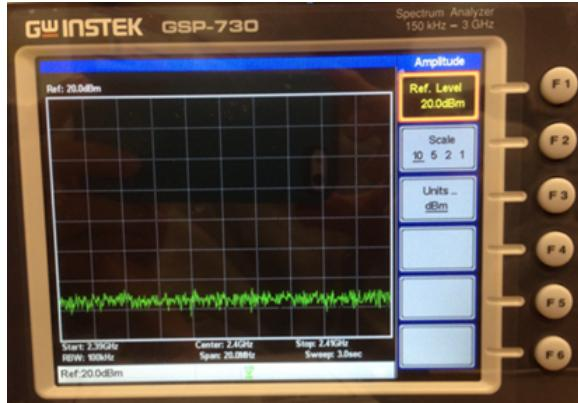

Figure 14: Setting the reference level.
- (d) Set the reference level. Press the “Amplitude” button, then press “F1” button to select the “Ref. Level” option. Type in “20 dB” to set the reference level to 20 dBm⁹. The screen of the spectrum analyzer should look like that in Fig. 14.